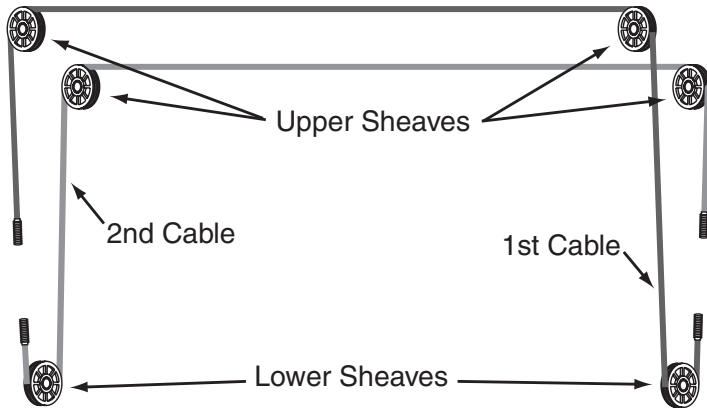

Fig. 11
(1) Per Hydraulic Cylinder
- Refer to Fig. 11 for the general cable arrangement.
- Run cable around the lower sheave, then up and around overhead sheave and across and down to the opposite carriage, Fig. 11.